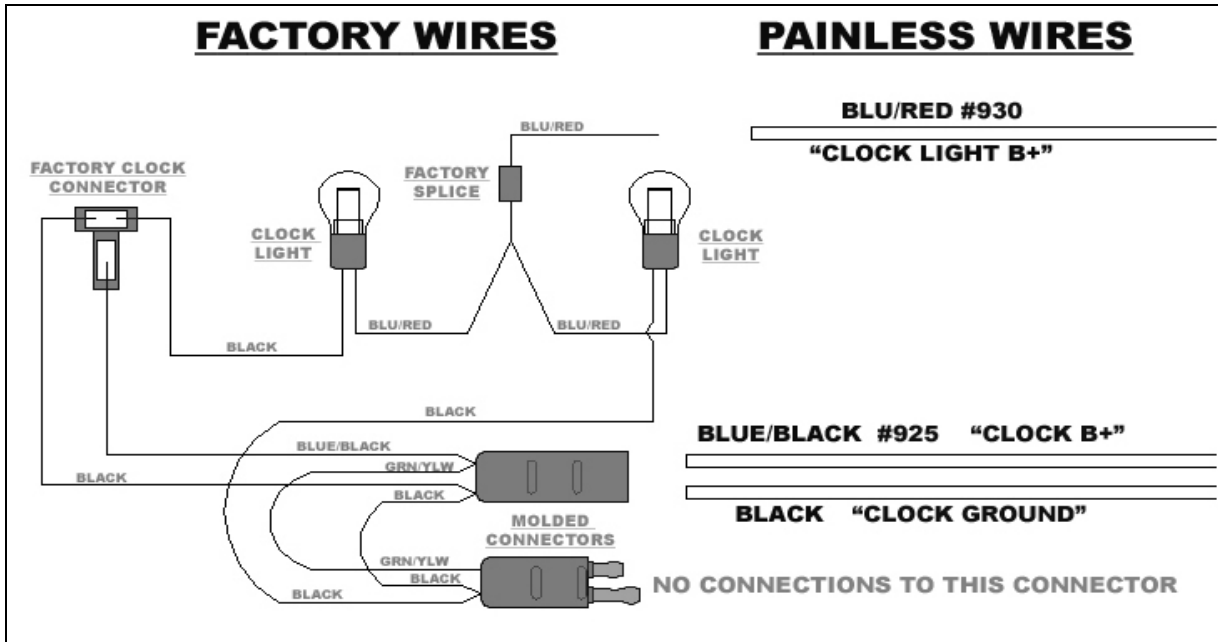
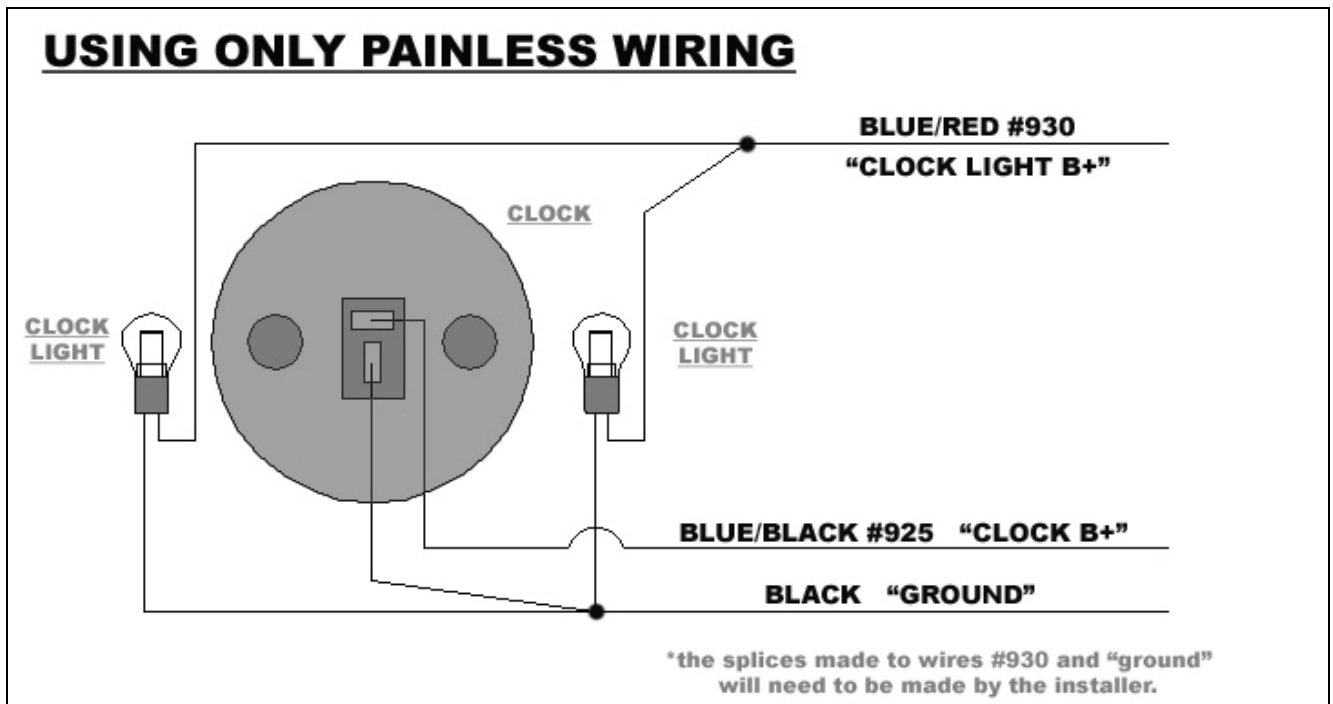

Figure 7-29A Clock Wiring (using factory clock harness)
Figure 7-29B Clock Wiring
- 7.17.5 To make the clock connections See Figures 7-29 A or B. Figure 7-29A allows the installer to retain the factory clock harness, eliminating splicing and extra work. Figure 7-29B shows the connections and splices that must be made in order for things to function properly without the use of a factory harness.